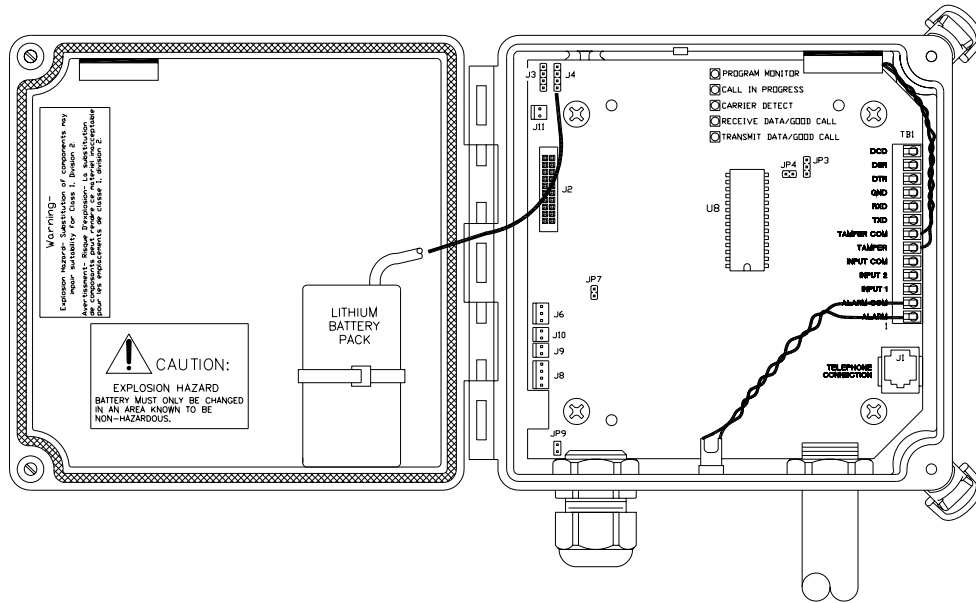

Figure 3-7.
1. Install the lithium battery pack on the door of the IMU-II/s enclosure as shown in Figure 3-7. Secure the battery with a nylon tie-wrap.